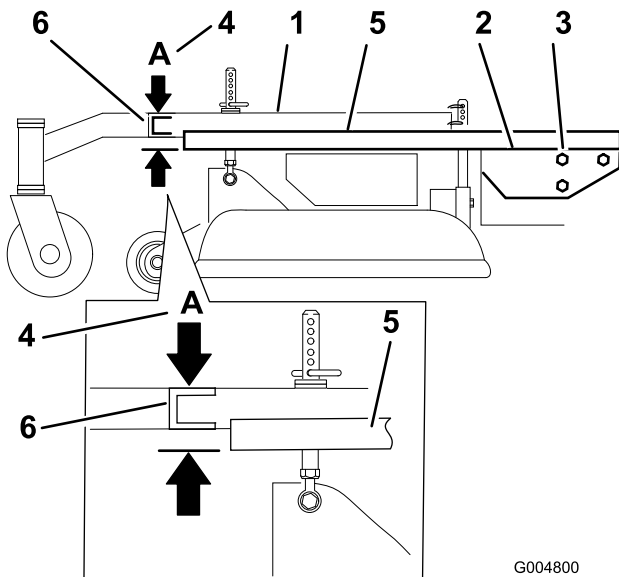

Figure 61
3. Place a long straight edge on top of the engine deck as shown in Figure 61.
4. At the carrier frame cross channel, measure the height at location **A** (Figure 61). This measurement must be 1-5/16 inch (33 mm), plus or minus a 1/4 inch (6 mm).
6. Loosen the carrier frame mounting bolts on both sides of the machine (Figure 61).
7. Align the carrier frame and engine deck to match 1-5/16 inch (33 mm), plus or minus a 1/4 inch (6 mm) at location **A** (Figure 61).